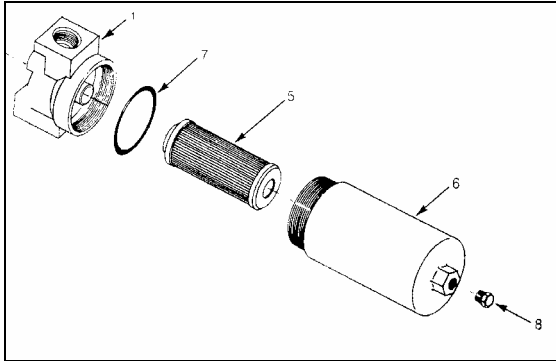

FIGURE 38: WATER FILTER
3. Rotate bowl (6) counterclockwise and remove.
4. Remove element (5) from housing. Discard all disposable elements. These elements are not cleanable (Fig. 38).